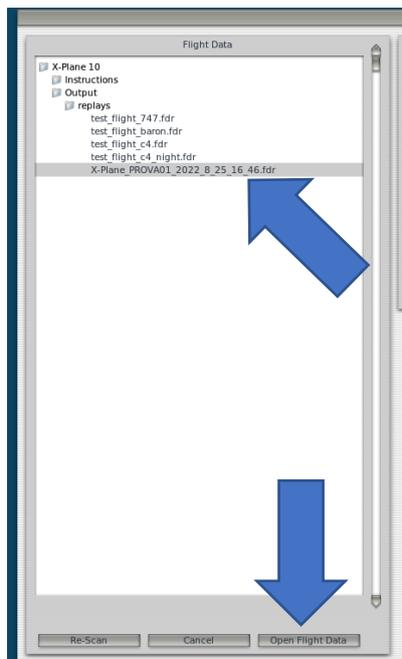

Figure 19: Select X-Plane log file
- 9 A new window will appear. Select your log file as shown in *Figure 19: Select X-Plane log file* and click “Open Flight Data”.